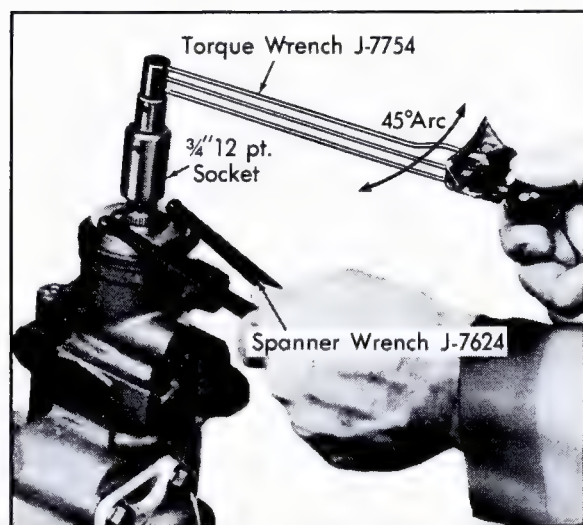

Fig. 9-35 Adjusting Thrust Bearing Preload
b. Install 0-25 inch-pound Torque Wrench, J-7754, with a 3/4 inch 12-point socket on stub shaft splines, Fig. 9-35.